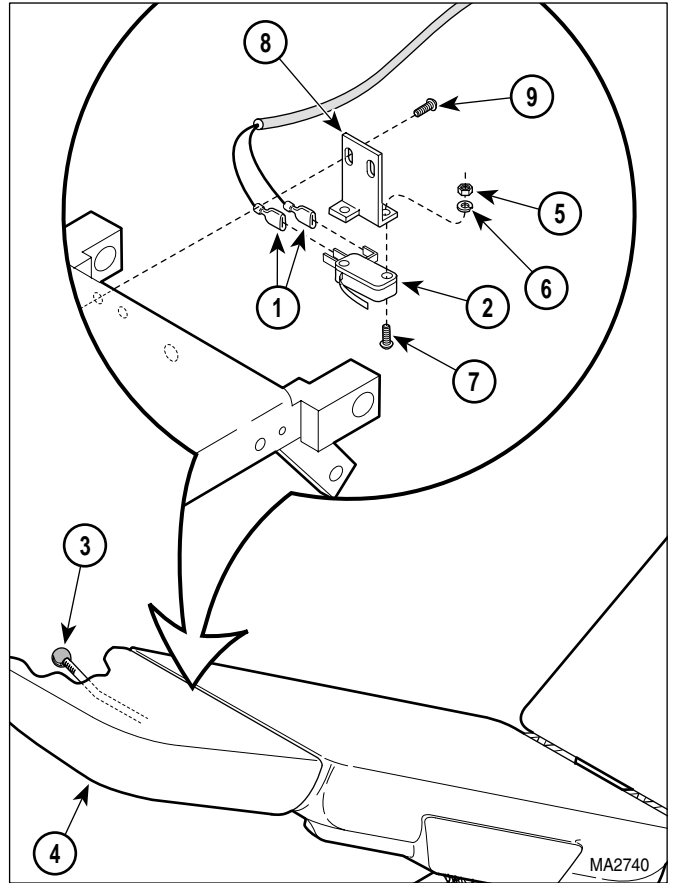

Figure 4-23. Foot Extension Limit Switch Removal/Installation
- (2) Unplug power cord from wall outlet.
- (3) Tag and disconnect two wires (1, Figure 4-23) from terminals of foot extension limit switch (2).